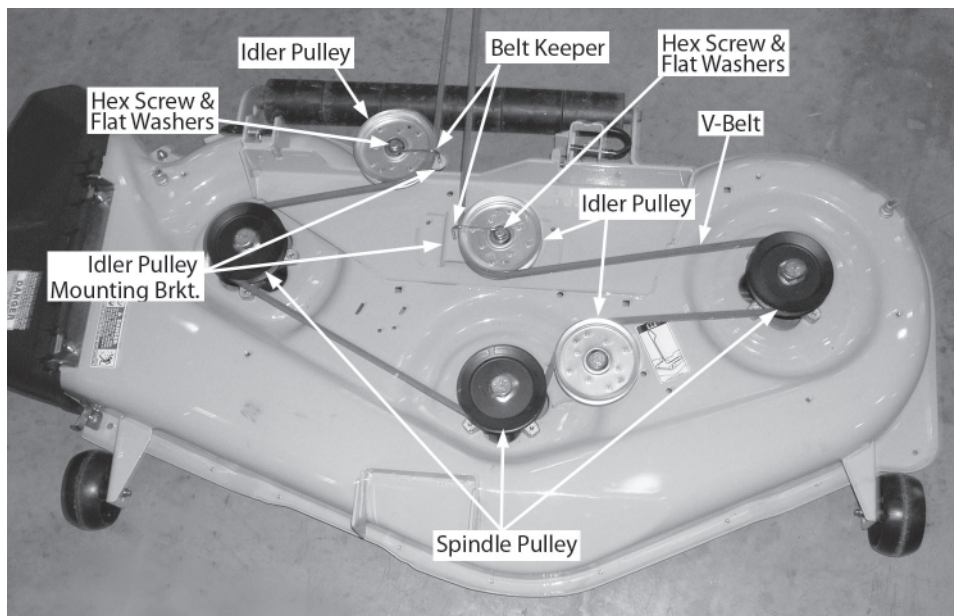

Figure 7-6 Replacement Belt Routing 50" Mower Deck
- Remove the V-Belt from the spindle pulleys and front idler pulley. Refer to Figure 7-6.
- From beneath the idler pulley mounting brackets remove the hex flange lock nuts fastening the rear idler pulleys and belt keepers to the mounting brackets. Lift the hex screw, flat washers and belt keeper as necessary to withdraw the belt keeper legs from the pulley mounting brackets and remove the V-belts from each idler pulley. Refer to Figure 7-6.
- Place the new belt around the center spindle pulley; then route the backside of the belt around the rear of the front idler pulley and over to the left spindle pulley. Refer to Figure 7-6.
- Place the V-belt in the two outer spindle pulleys and route the backside of the belt to the two rear idler pulleys. Refer to Figure 7-6
- Lift the hex screw, flat washers and belt keeper of the left idler pulley and slide the belt routed from the left spindle pulley between the belt keeper and pulley. Insert the leg of the belt keeper into the small hole of the pulley mounting bracket. Insert the hex screw with flat washers, belt keeper, and idler pulley into the mounting bracket and secure with the hex flange lock nut. Refer to Figure 7-6.